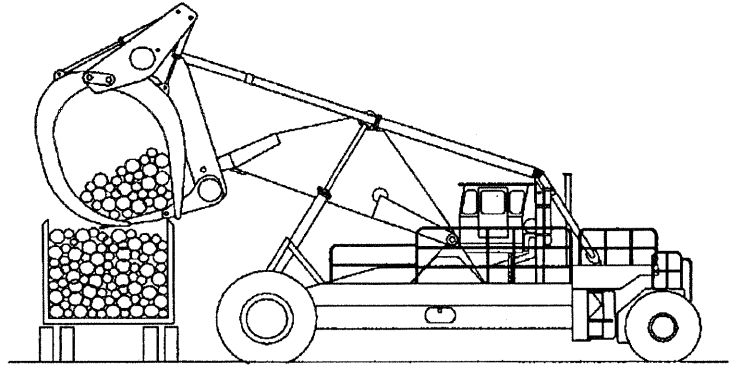

Fig 4-7
3. Work the tines through approximately $\frac{1}{3}$ of the load. See Fig. 4-7.